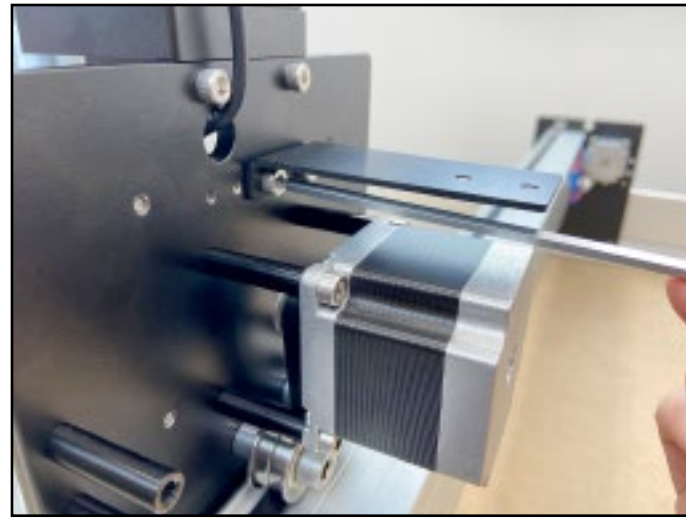

Figure 6-4
1. Gather the X-Axis drag chain head bracket (the narrower of the two head brackets), a tail bracket (single PEM nut) and two (2) middle brackets (no PEM nut).
2. Use the 3mm hex key and two (2) M5x8mm socket head cap screws to secure the head bracket to the back of the Z-Plus, just above the X-motor. See **Figure 6-4**.